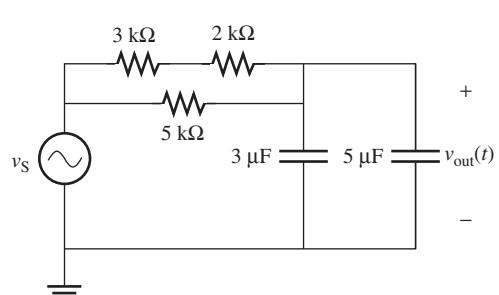

FIGURE P7.4 Circuit for Problem 7.4.
- 7.4 (A)* Find the transfer function for the circuit in Figure P7.4.